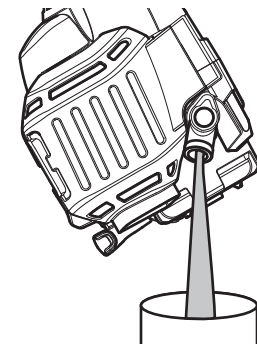

Fig. 36
3. Tip the unit vertically to pour the oil out of the oil fill hole and into a container (Fig. 36). Allow ample time for complete drainage.